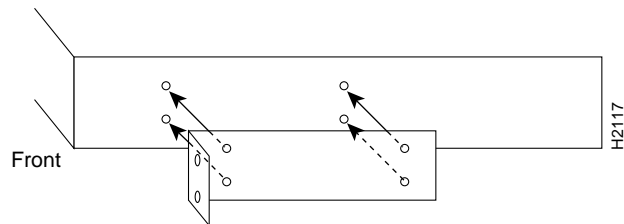

Figure 3-4 Attaching the Rack-Mount Brackets to the Concentrator
- Step 2** Attach a rack-mount bracket to each side of the concentrator with the supplied Phillips machine screws. Mount each bracket with the tab positioned toward the front of the concentrator. (See Figure 3-4.)